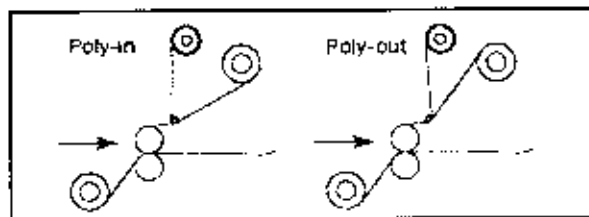

Fig. 6-17. Configurations for Poly-in and Poly-out Films
This two pass operation requires pressure sensitive laminating film on the top supply shaft and pressure sensitive mounting film on the bottom supply shaft. Refer to Fig. 6-17 for the proper configuration of Poly-in or Poly-out film.
- Refer to Fig. 6-17 for the proper film configuration.